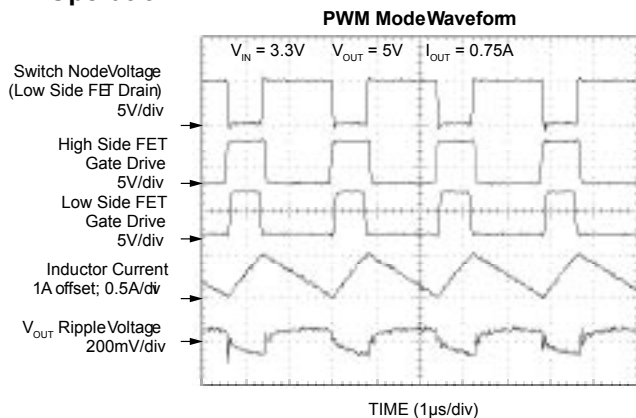
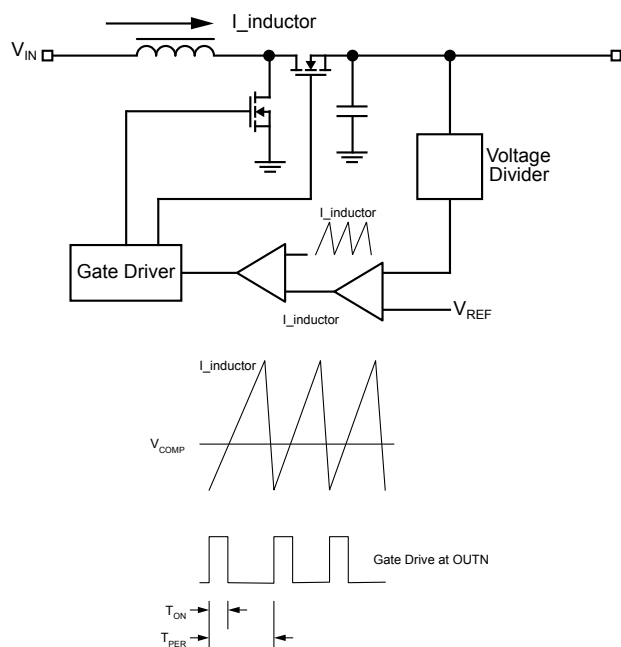

Figure 5 - PWM mode waveforms
Figure 6. PWM Control Loop
Figure 5 shows typical waveforms for PWM mode of operation. The gate drive signal turns on the external low side MOSFET, Q1, allowing the inductor current to ramp up. When the low side MOSFET turns off and the high side MOSFET, Q2, turns on, current flowing in the inductor forces the MOSFET drain voltage to rise until it is clamped at approximately the output voltage. The MIC2185 uses current mode control to improve output regulation and simplify compensation of the control loop. Current mode control senses both the output voltage (outer loop) and the inductor current (inner loop). It uses the inductor current and output voltage to determine the duty cycle (D) of the buck converter. Sampling the inductor current effectively removes the inductor from the control loop, which simplifies compensation. A simplified current mode control diagram is shown in figure 6.